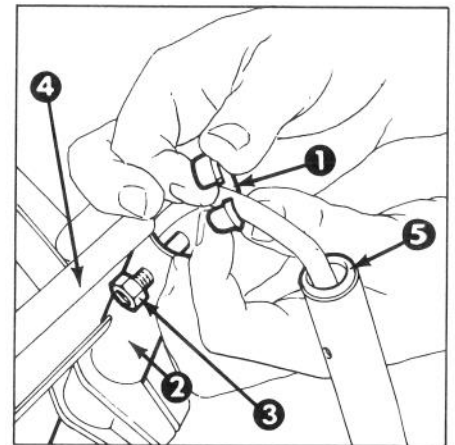

Figure 2
2. Remove and discard bushing inserted into lower right hand handle for shipping purposes, then remove two locknuts and carriage bolts holding escutcheon plate to lower handle and remove escutcheon plate (Fig. 2).
NOTE: Do not remove bushing from upper handle (Fig. 2).